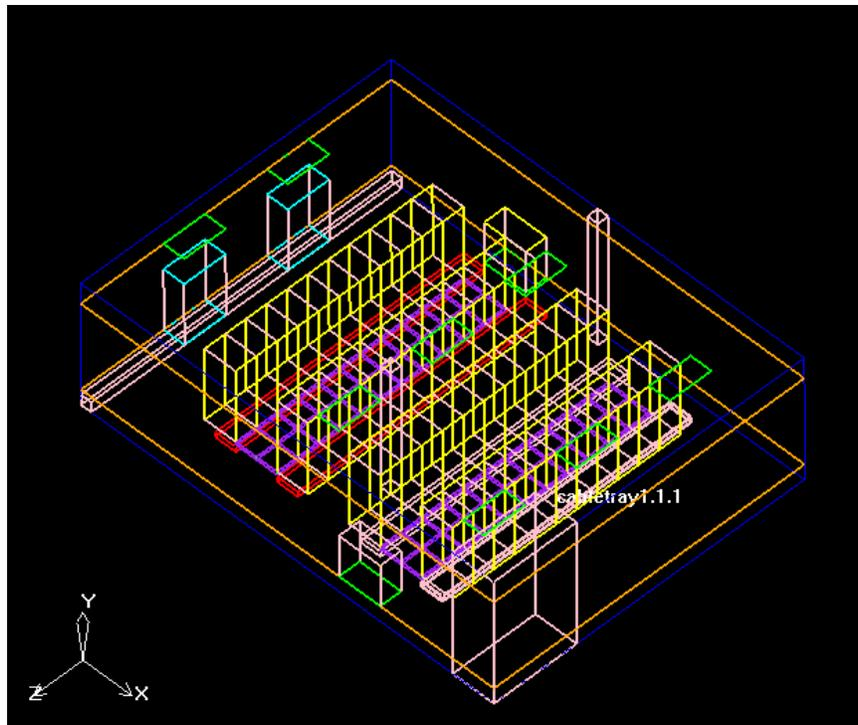

Figure 5.36: Completed Model
- (i) The completed model will look like Figure 5.36.